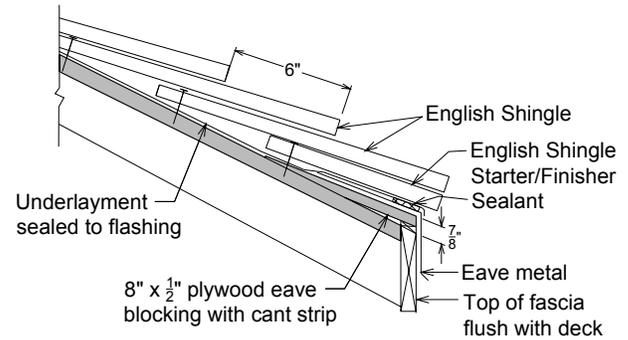

FIGURE 5. EAVE BLOCKING AND METAL WITH ENGLISH SHINGLE
2. Install eave metal over 8" plywood eave blocking over a $\frac{3}{8}$ " cant strip or a $\frac{3}{8}$ " raised fascia board with English Shingles. (Figure 5) See Page 10 (Paragraph 20, Figure 24-25) for installation of eave metal with turret shingles on curved eaves.